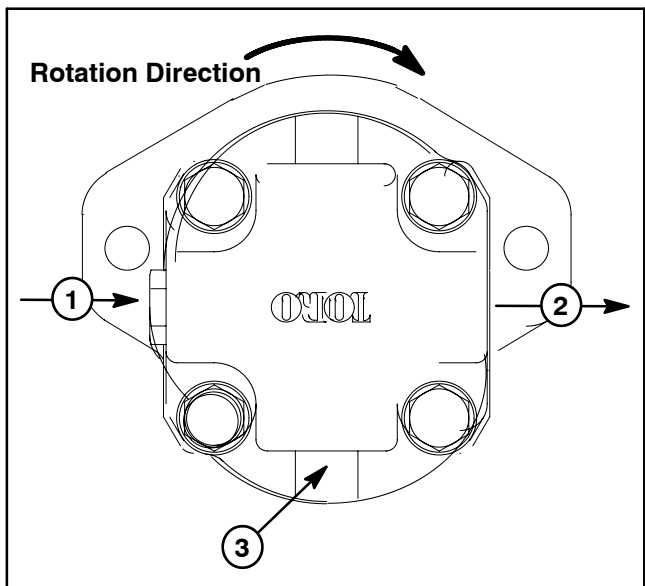

Figure 82
20. Place a small amount of clean hydraulic oil in the inlet of the motor and rotate the drive shaft one revolution (Fig. 82). If any binding is noted, disassemble the motor and check for assembly problems.